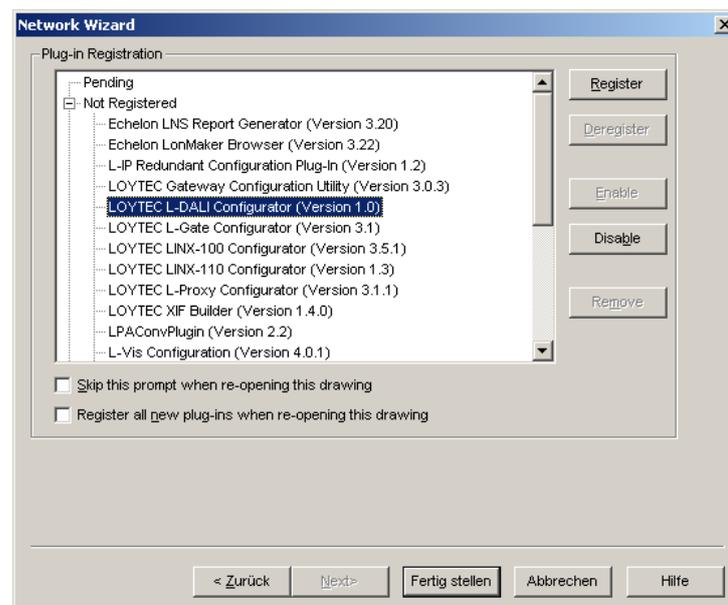

Figure 81: Select the Plug-in to be registered.
2. Click **Next** until the plug-in registration tab appears in the Network Wizard. Select the **LOYTEC LDALI Configurator (Version X.Y)** from the list of **Not Registered** (see Figure 81).